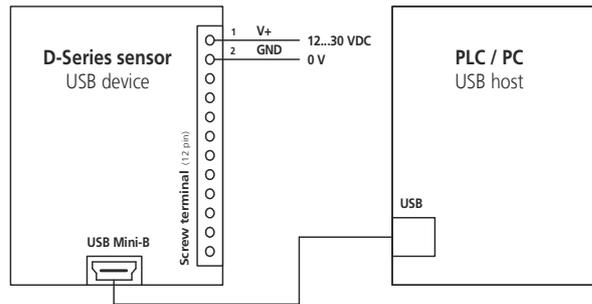

Fig. 2: Configuration connection
- 3) Connect the sensor to the PC and to the 24V DC Power supply as shown in Fig 2.